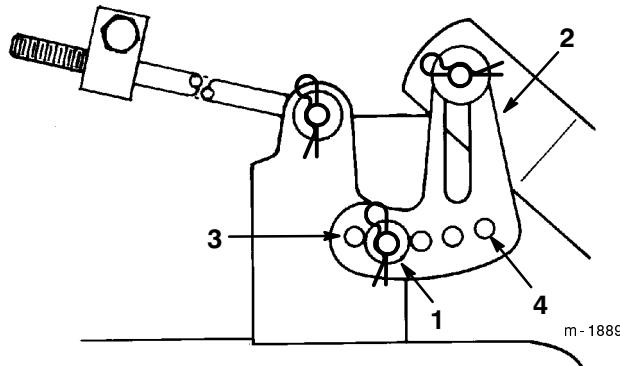

Figure 50
4. Remove the hairpin cotter and washer from the leveling bracket and washer from the leveling bracket (Fig. 50). To level the blade(s), reposition the leveling bracket in a different hole and install the washer and hairpin cotter. (Fig. 50). A front hole lowers the blade height and a rear hole raises its height. Repeat this procedure on the opposite side of the mower.